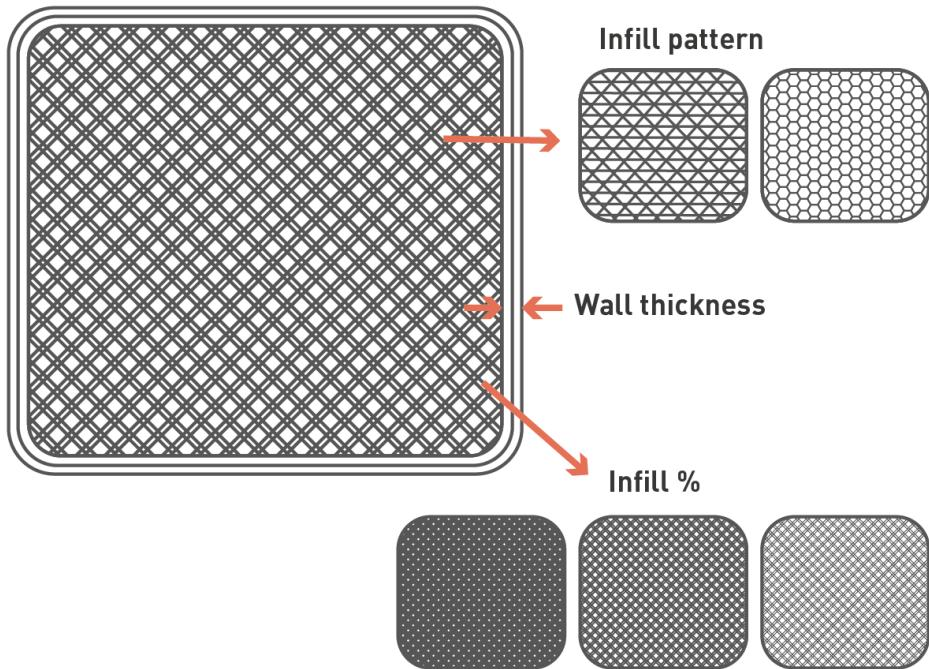

Figure 27 - Infill parameters.
- C. **Shell thickness:** As explained during the Redesign phase, 3D printed parts consist of a shell and an infill density and pattern. The shell is the outer walls of the 3D printed part, as shown in Figure 27. You should select a shell thickness that fits with the strength and stiffness requirements that you identified during the Analysis phase and Redesign phase. Increasing your wall thickness is useful when you need a part to be stronger, this has a better effect than increasing infill density. It is recommended to define the wall thickness with multiples of the layer height you have selected to avoid gaps.